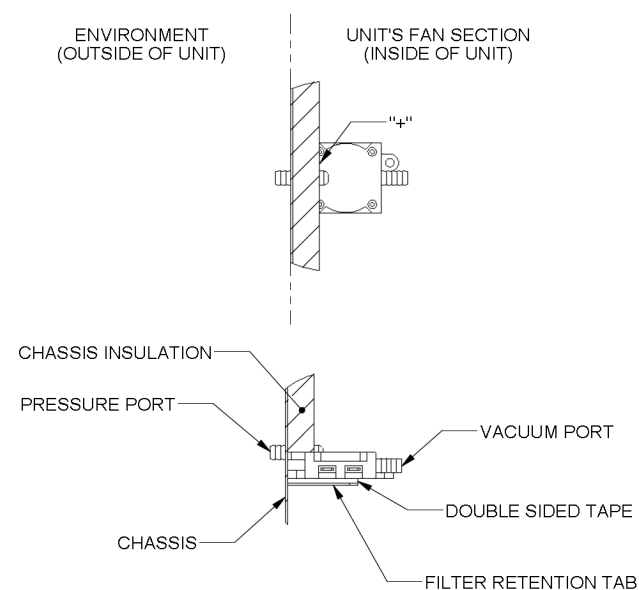

Figure 13b
- Secure differential air pressure switch on the filter retention tab using double sided tape. Position the pressure port (marked with "+") outside the chassis exposed to the environment. The vacuum port should extend inside the chassis and be open to the unit's fan section. (See figure 13b.)